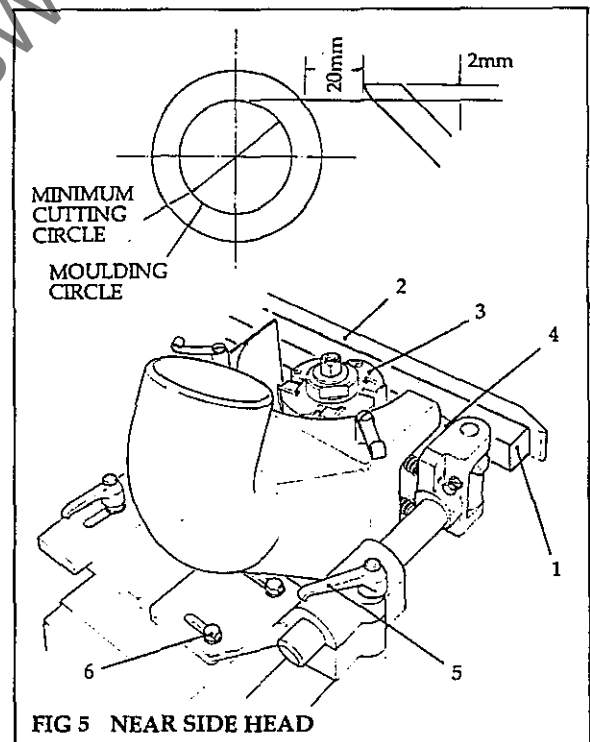

FIG 5 NEAR SIDE HEAD
#### Near Side Head (Fig 5)
- Release locking handle (13).
- Rotate handscrew (15) clockwise to advance the spindle or anticlockwise to retract the spindle.
- Refasten locking handle (13).
(3) Set the chipbreaker (4) as follows:
- Release the locking handle (5)
- Adjust the chipbreaker (4) so that it clears the smallest cutting circle by approximately 2mm (Fig 5).
- Refasten the locking handle (5).
- Unscrew the bolts (6) and adjust the chipbreaker (4) to suit the cutterblock diameter so that it clears the cutterblock by 20mm (Fig 5).
- Retighten the bolts (6).